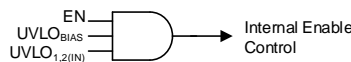

图 41. Simplified Turnon Control
Controlling when a single power supply turns on can be difficult in a power distribution network (PDN) because of the high power levels inherent in a PDN, and the variations between all of the supplies. 图 41 和 表 2 show that the LDO turnon and turnoff time is set by the enable circuit (EN) and undervoltage lockout circuits ( $UVLO_{1,2(IN)}$  and  $UVLO_{BIAS}$ ).